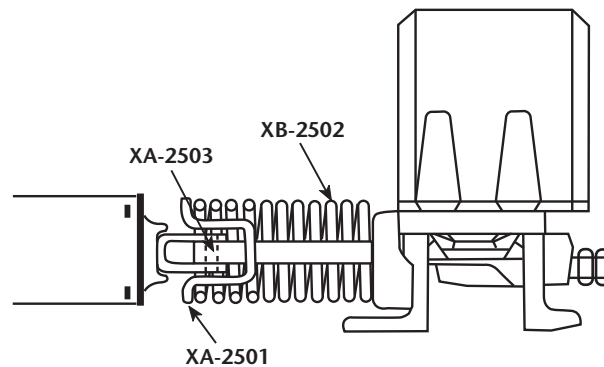

FIGURE 2
5. Carefully loosen the spring compressor so that the pin is captured by the spring retainer (see *Figure 2*).